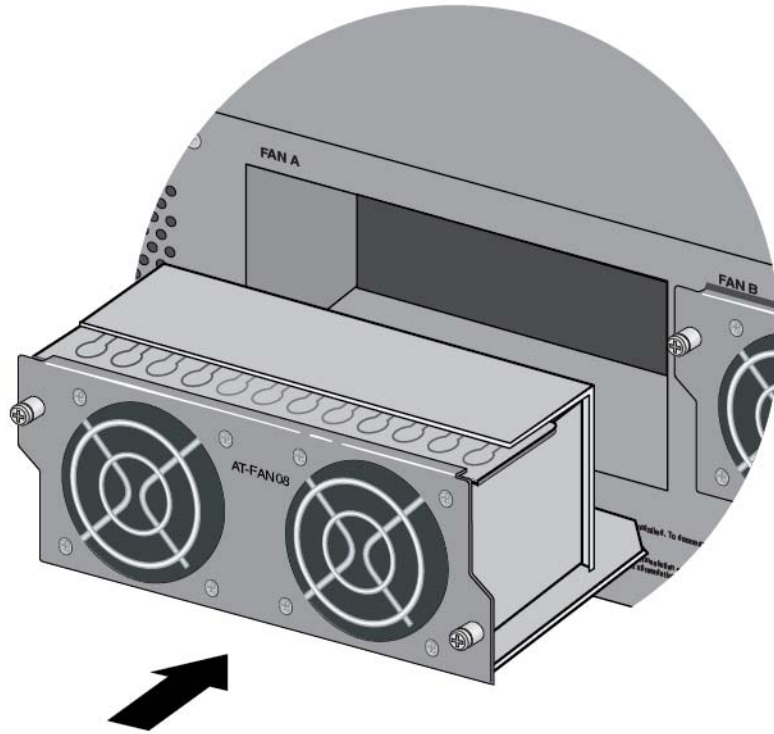

Figure 113. Aligning the AT-FAN08 Module in the Chassis Slot
1. Align the AT-FAN08 Module in the slot as shown in Figure 113 on page 152.